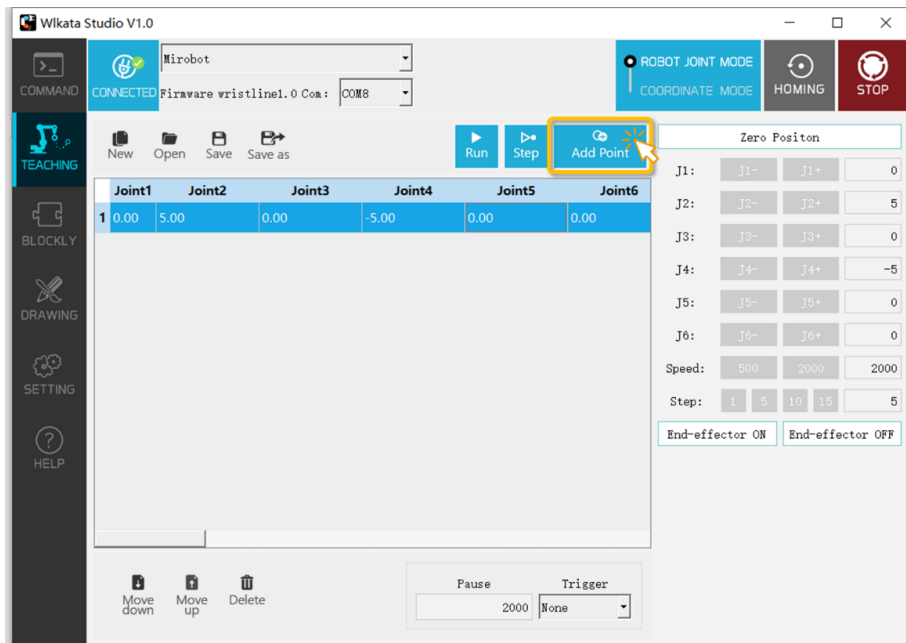

Figure 3.23 Adding the teaching points under the TEACHING page
(3) Click the - + control buttons on the right panel of WLKATA Studio to move the joints (under the ROBOT JOINT MODE) / or the position and attitude of the End-effector (under the COORDINATE MODE) to the wanted position. When adjusted to a satisfactory position point, click the **Add Point** button to add a teaching point, as shown in Figure 3.23.